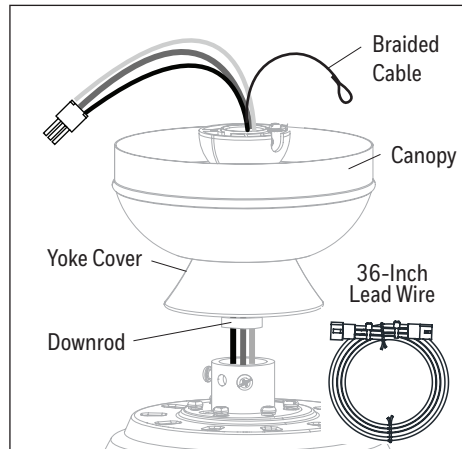

Figure 3.2
2. Insert the downrod through the canopy and yoke cover. Feed the wires and braided cable from the fan through the downrod. Depending on the length of downrod you use, you may need to use the 36-inch lead wire to accommodate a 36 or 48-inch downrod (sold separately). When necessary, connect the 3-pin connector extending from the center of the downrod to the 36-inch lead wire. **Note:** The downrod included with this fan will not utilize the 36-inch lead wires (Figure 3.2).